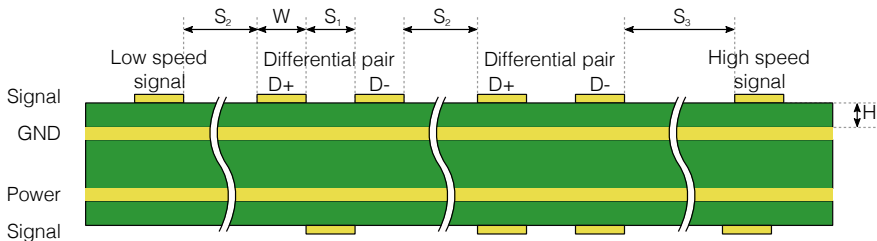

Fig. 20: Spacings of a low speed signal, two differential pairs and a high speed signal
If you are using the USB PHY and/or the MIPI D-PHY, then you should route the differential pair marked D+ and D- carefully in order to ensure signal integrity. The D+ and D- lines are the positive and negative data polarities of a high-speed signal respectively. Their high-speed differential nature implies that they must be coupled and properly isolated. The board design must ensure that the board traces for D+ and D- are tightly matched. In addition, the differential impedance of D+ and D- must meet its specifications. We route MIPI D-PHY signals as loosely coupled pairs. Fig. 20 and the table below shows guidelines on how to space and stack the board when routing differential pairs.
- ▶ High-speed clock and periodic signal traces that run parallel should be at least a distance *S3* away from D+/D- (see Fig. 20 and the table above).
- ▶ Low-speed and non-periodic signal traces that run parallel should be at least *S_2* away from D+/D- (see Fig. 20 and the table above).